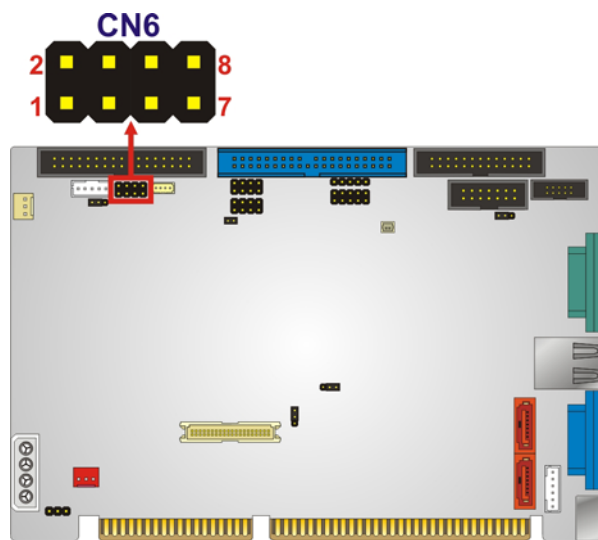

Figure 3-10: Front Panel Connector Pinout Locations
- CN Location:** See Figure 3-10